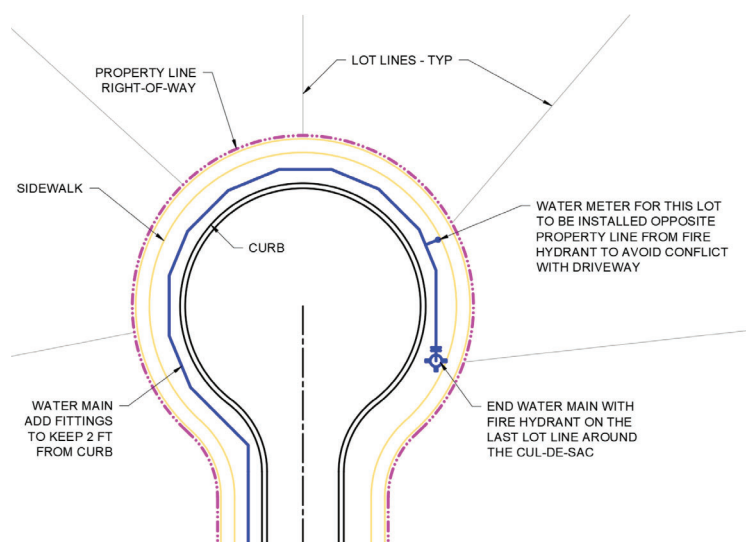

Figure 13 - Cul-de-sac Water line
- 5.18. Fire hydrants must be installed on the last property line near the point of curvature of the street in a cul-de-sac design. See Figure 13.